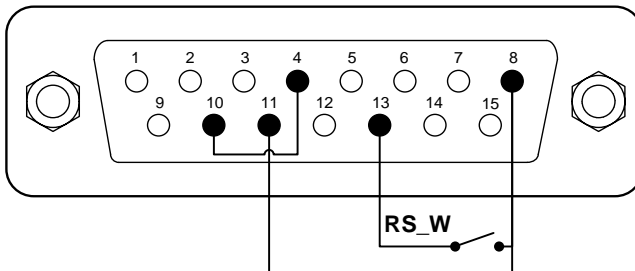
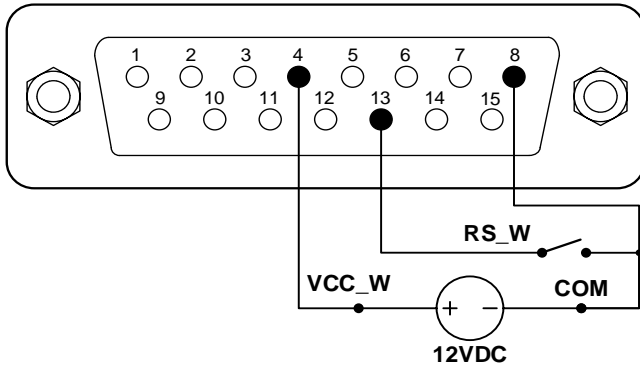

Figure 55. Control Start/Stop with Internal 12V Power Source
Figure 56. Control Start/Stop with External 12VDC Power Source
- 1) Power pump off. Wire the DB15 connector as shown on Figure 55 or Figure 56, and connect it to the DB15 port on the rear of the pump.